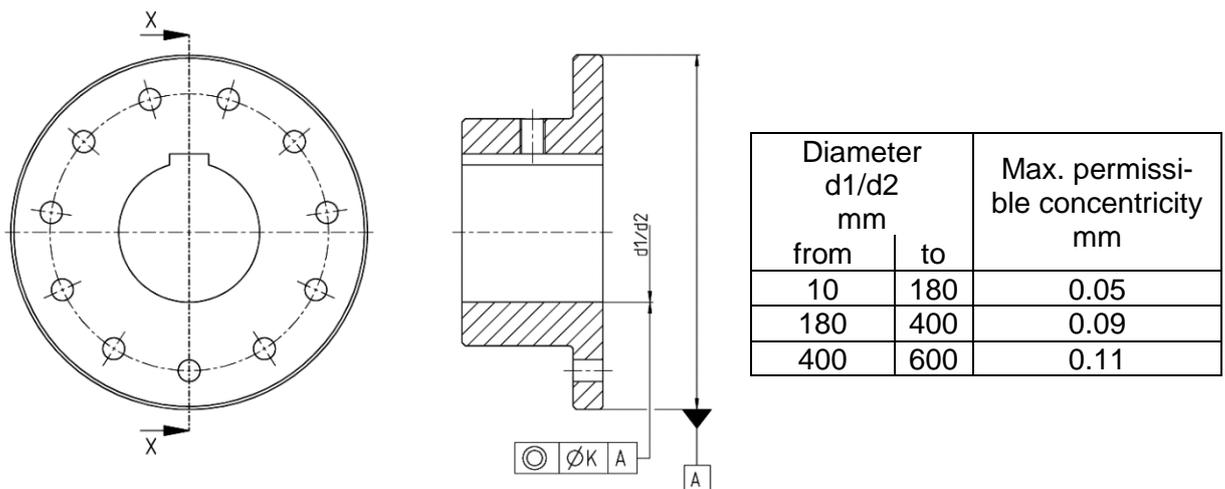

Figure 7.6: Form and positional tolerance of the bore and position of the keyway nut
- the form and positional tolerances in accordance with DIN ISO 286 are adhered to (see figure 7.6).
If the hub is to be designed with a keyway, it is preferably to be introduced between the jaws as in figure 7.6. The design and inspection of the keyway connection falls to the operator and is his responsibility.